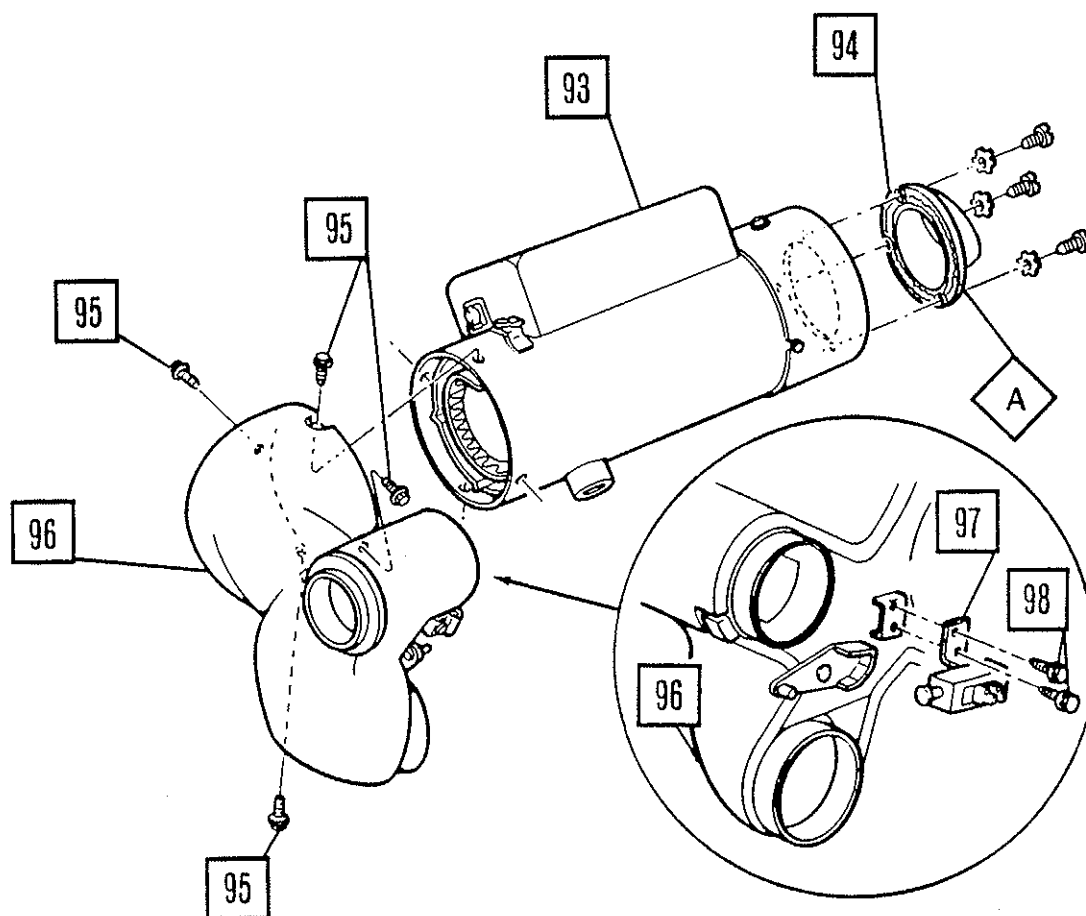

Figure 24.
- 152. Assemble diverter assembly to warm air heater with screws and attach switch to diverter with screws (Figure 24.). Tighten to 8-14 lb.-in. (1.0-1.6 Nm).
153. Apply RTV sealer to end of warm air heater and install adaptor assembly with existing screws and washers (Figure 24.). Tighten to 8-14 lb.-in. (1.0-1.6 Nm).